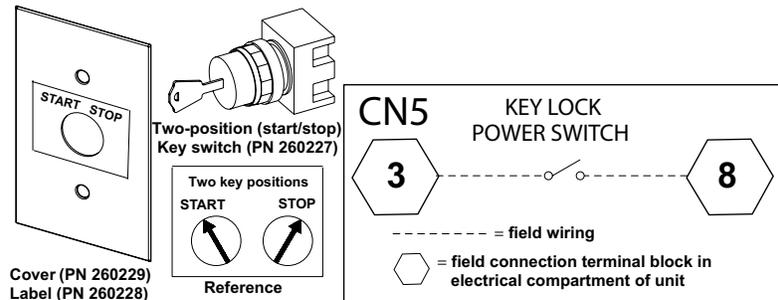

Figure 22. START/STOP Wall Switch (Option CN5) Components and Wiring Connections
The wall-mounted, manual, two-position key switch (see Figure 22) will start or stop the unit. Install the two-wire, 24V switch as follows:
3. Run wires and make electrical connections (refer to wiring diagram and Figure 22).